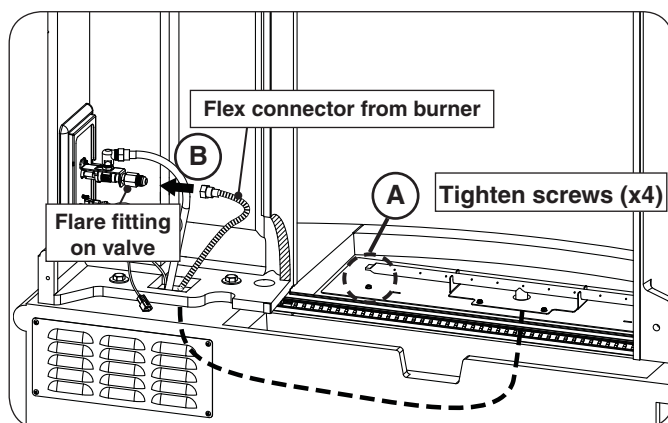

Fig. 20-4 Connect burner flex to valve
2. Use a  $\frac{5}{16}$ " nut driver to fasten the burner to the base (see Fig. 20-4, A).
3. Locate the flex connector coming from beneath the burner assembly and connect it to the valve assembly found on the door side of the unit (see Fig. 20-4, B). Tighten securely.